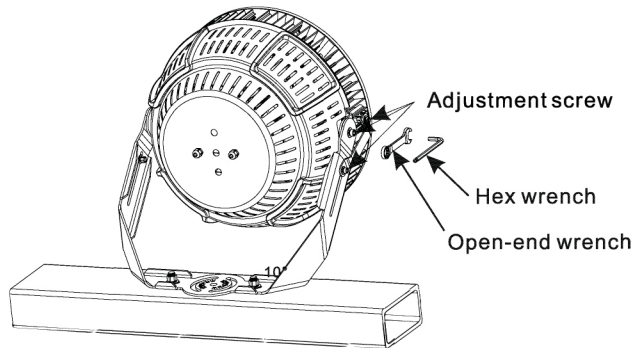

Figure 4
4. Use an open-end wrench and hex wrench to loosen the adjustment screw used to adjust the angle (Figure 4).